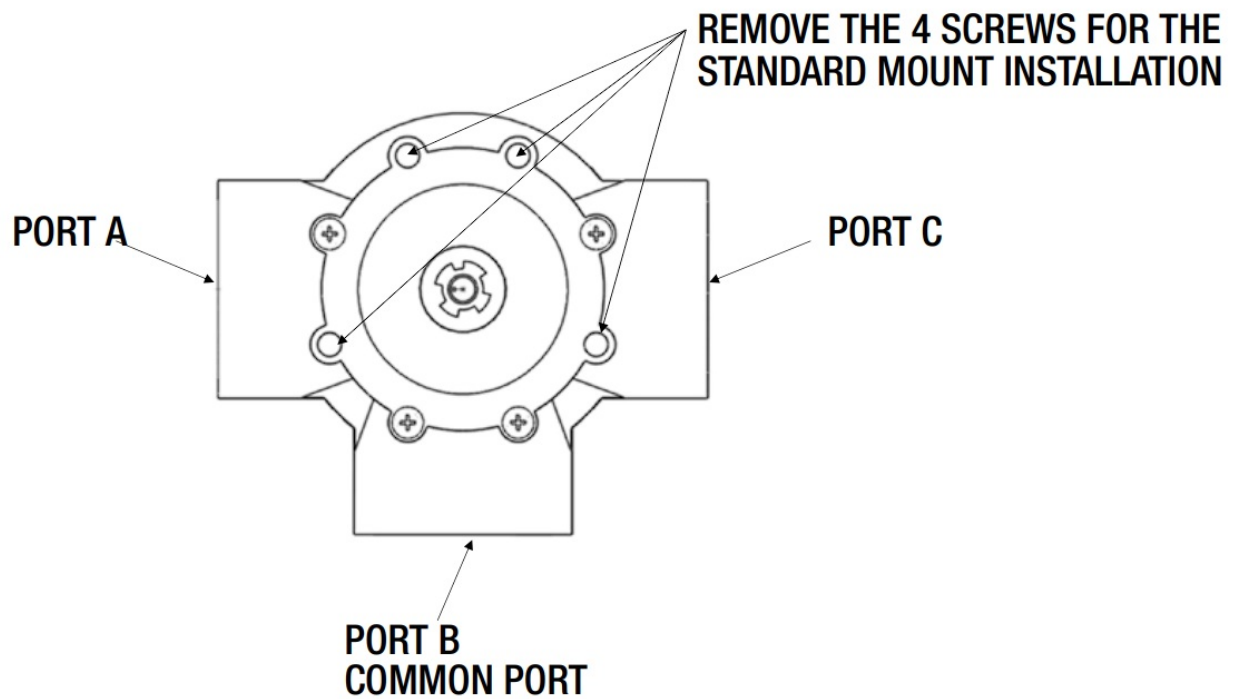

Figure 1.
2. With a Phillips screwdriver, remove the four screws from the valve body as shown in Figure 1.
Standard Plumbing – A three-port valve is the port B (middle) being the incoming (common) port and A and C ports are the outlet ports (see Figure 1).